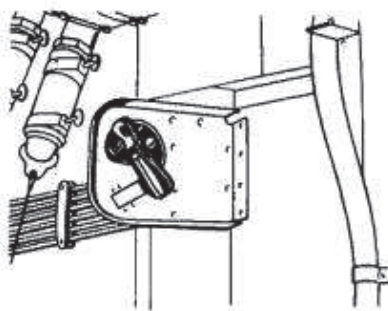

Figure 37 — Fuel Tank Valve
- (1) Unlock controls and check Forms 1 and 1A.
- (2) Check to see that pitot tube covers are removed.
- (3) Check fuel tanks visually.
- (4) Check to see that fuel tank caps are secured.
- (5) Check to see that fuel tank valves are turned "ON." (Forward bomb bay, each side of door.) (See figure 37.)